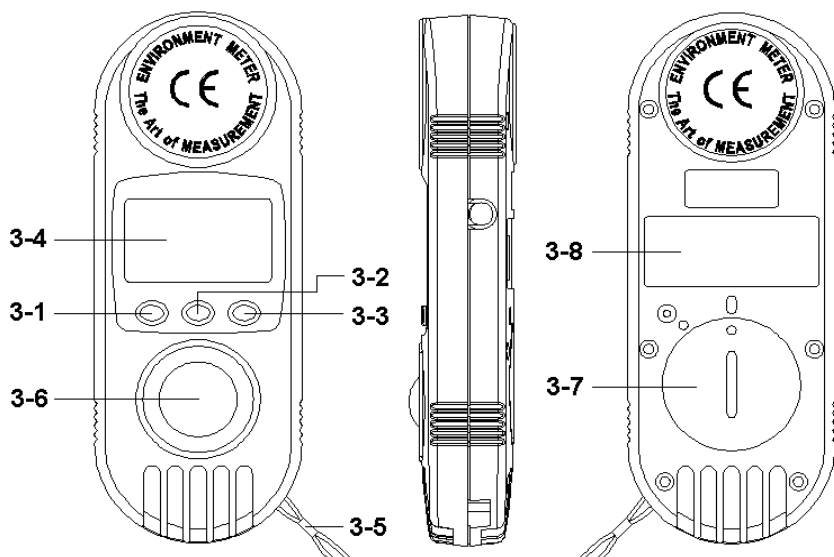

Fig. 1
- 2) Open the " Battery Compartment / Cover " ( 3-7, Fig. 1 ) and remove the battery.